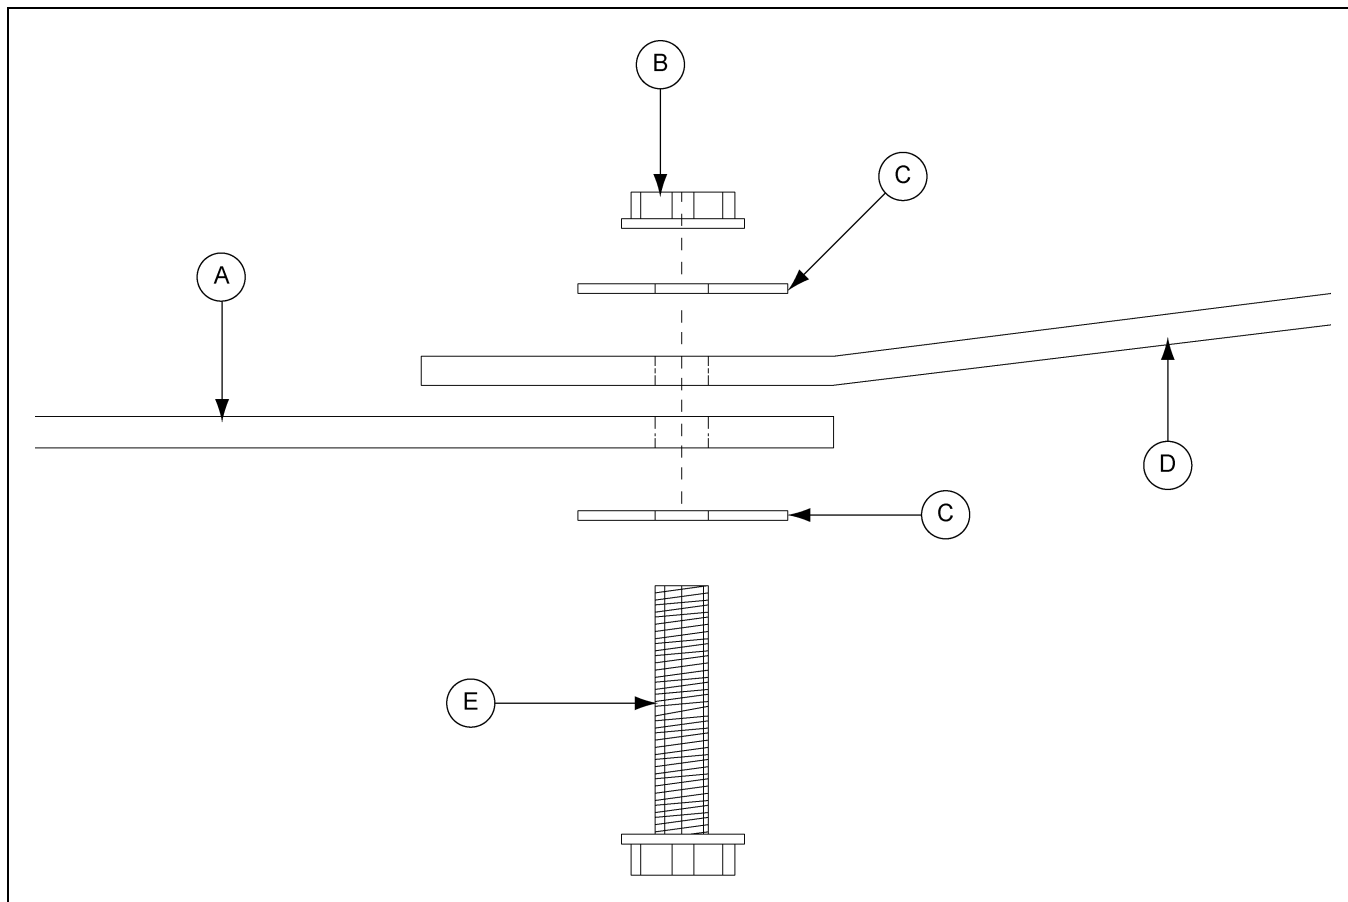

Figure 9C
2. Mark the nine (9) holes around the fan orifice.
4. Mount the cone using the 1-1/2" bolts, fender washers and flange nuts. Tighten all hardware including cone panels. (See Figure 9C.)